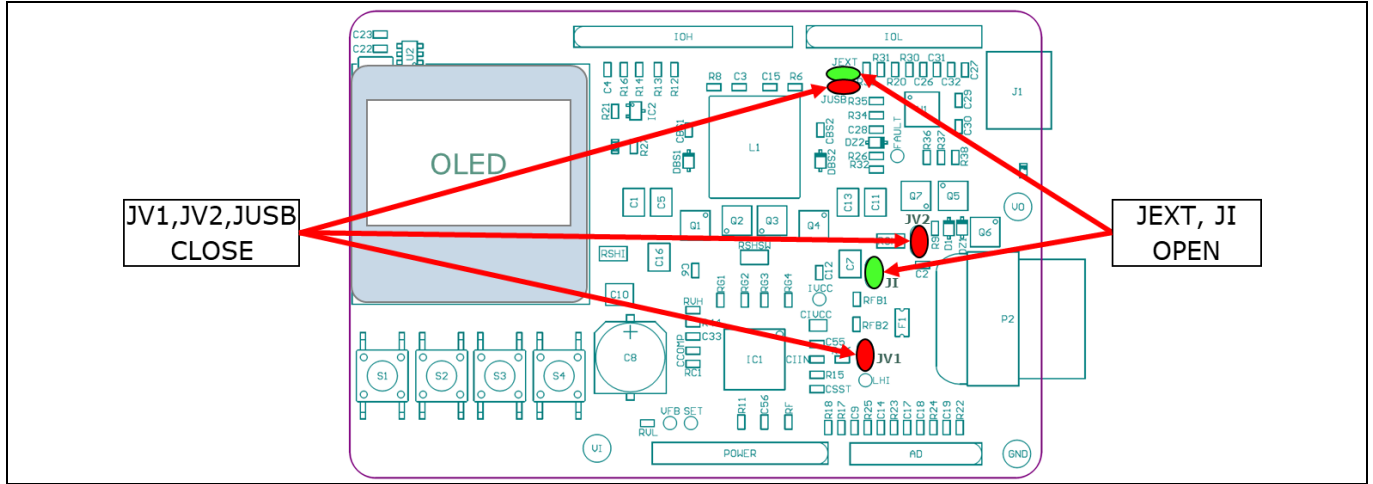

Figure 8 Jumpers set for voltage regulator mode powered by USB-PD
1. Configure solder jumpers for voltage regulator and external standard power supply: Figure 8